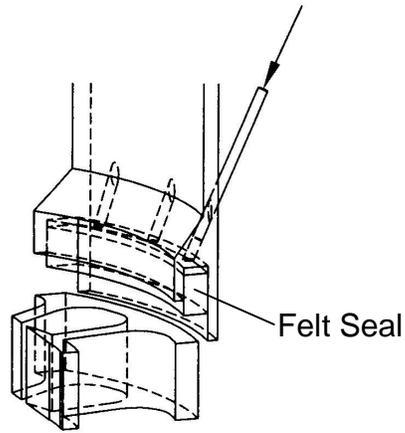

FIGURE 8
21. Using a rod as shown in Figure 8, push the felt seal down gently against the top surface of the wear plate all the way around the bottom of the hopper.